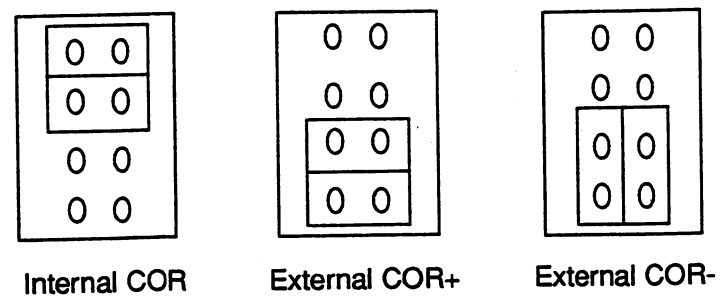

Figure 4-1. Main Board Jumpers
- [2]. Set repeater bus compatibility jumpers. See Figure 4-1 for the location of the main board jumpers.